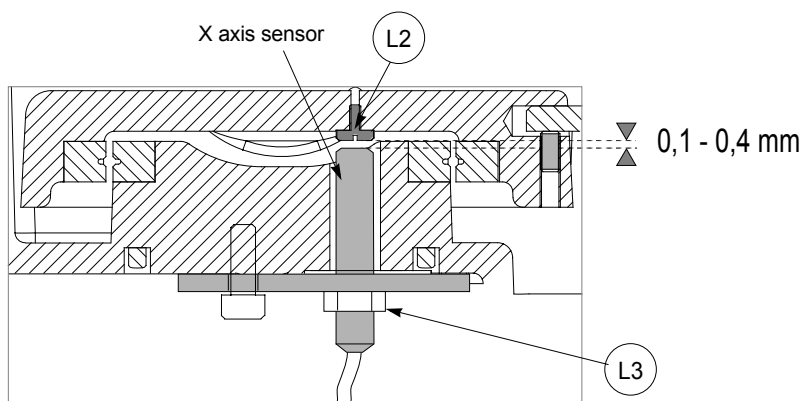

Fig. 56
- 4) loosen the (L3) nut. Unscrew the sensor from the plate and remove it (fig. 56).
- 6) fit the new sensor in position, tightening it until it almost touches the (L2) screw (fig. 56) thus securing it with the (L3) nut.